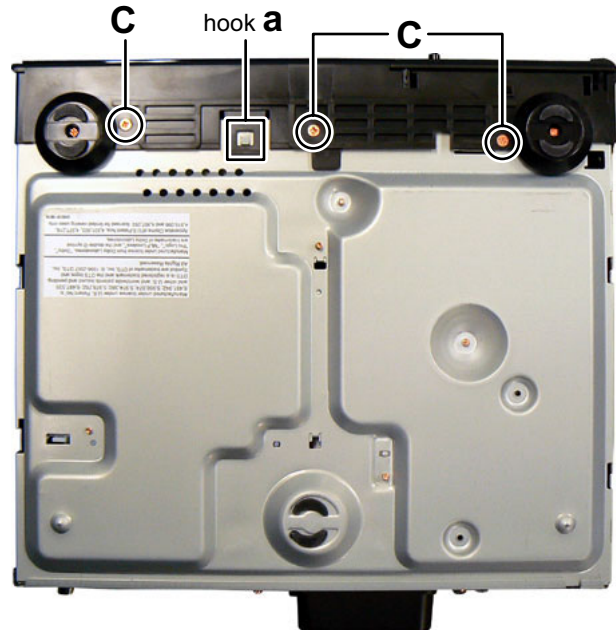

Fig.4
#### 3.1.2 Removing the Front panel (See Fig.4 to 7)
- (1) Remove the three screws **C** attaching the Front panel. (See Fig.4)
- (4) Disengage one hook **a** engaged bottom side of the Front panel. (See Fig.4)